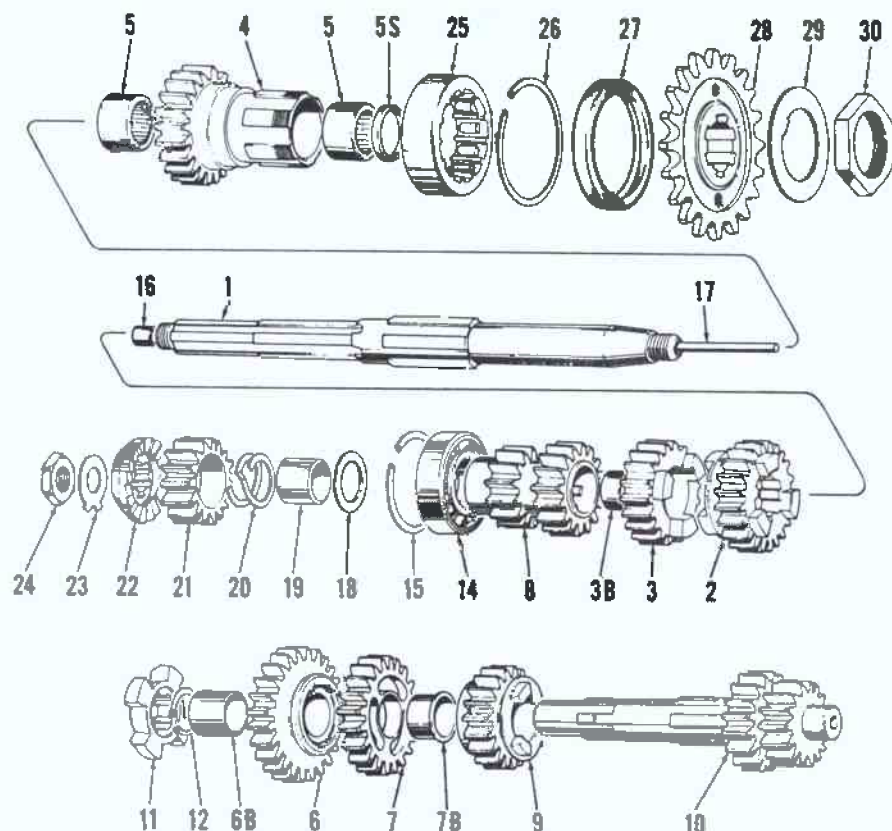

Fig. TM4-50—Exploded view of five speed transmission gears and associated parts.
Remainder of disassembly will depend upon work done. The complete clutch assembly must be removed before input shaft (1—Fig. TM4-50) can be removed. The transmission output sprocket (28) must be removed before output shaft (4) can be removed.
surfaces toward gear on shaft (10—Fig. TM4-50) and first gear drive dog (11).